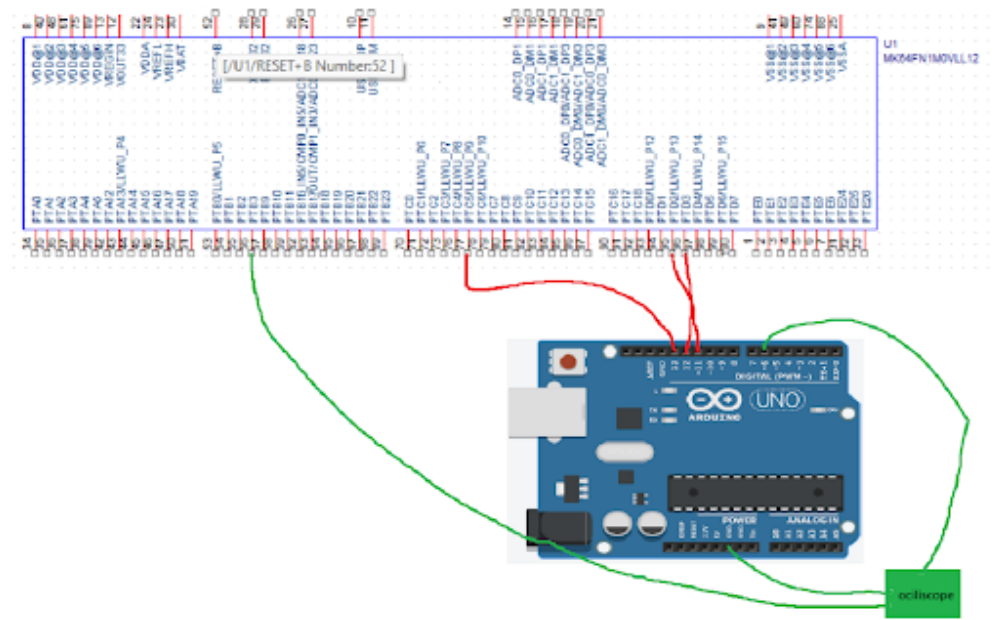

Figure 2
- **Figure 2:** Schematic showing SPI connections on K64F and Arduino Uno